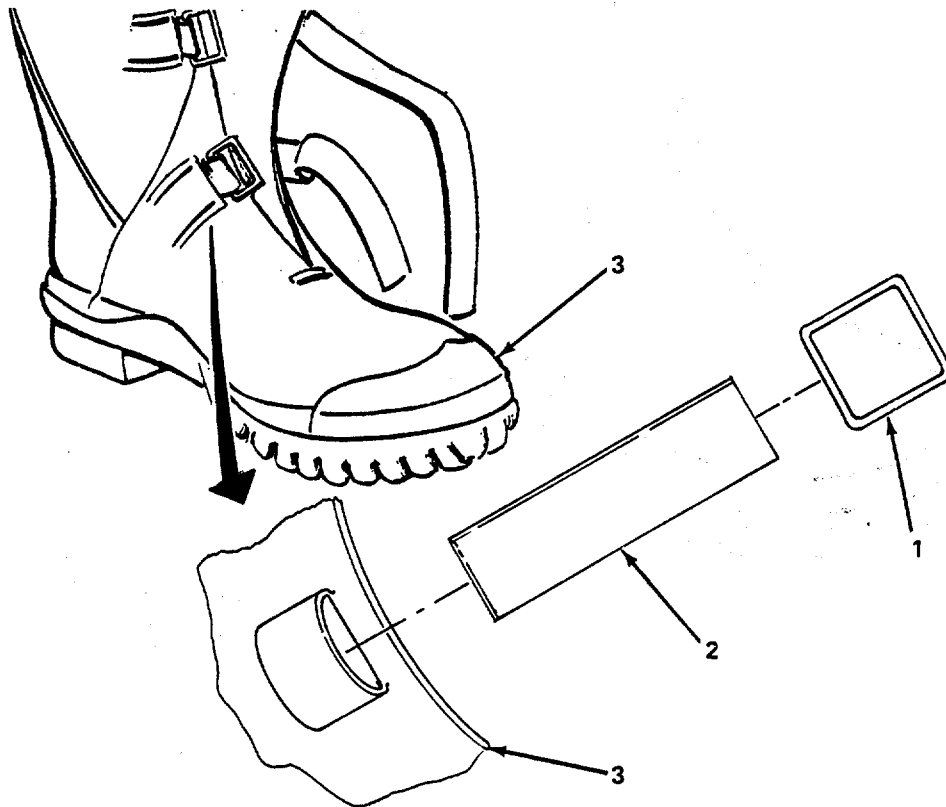

Figure 4-5. Loop, Repair.
- (2) *Replace loop.* (figure 4-5)